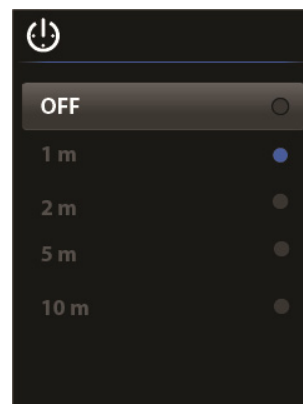

Fig 9-8 Selecting APO time
3. Use the arrow keys to scroll to the desired APO time (OFF, 1 minute, 2 minutes, 5 minutes, and 10 minutes). See Fig 9-8.